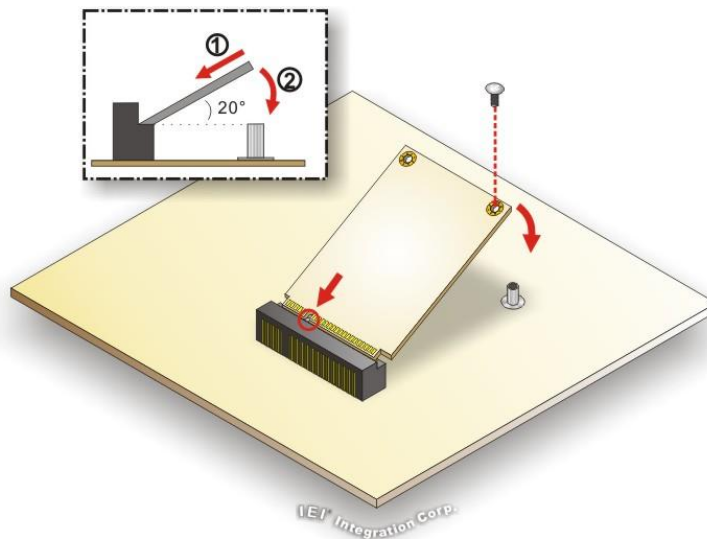

Figure 3-3: M.2 Module Installation
- Step 4:** Push the other end of the M.2 module down and secure the module with the previously removed retention screw (**Figure 3-3**).